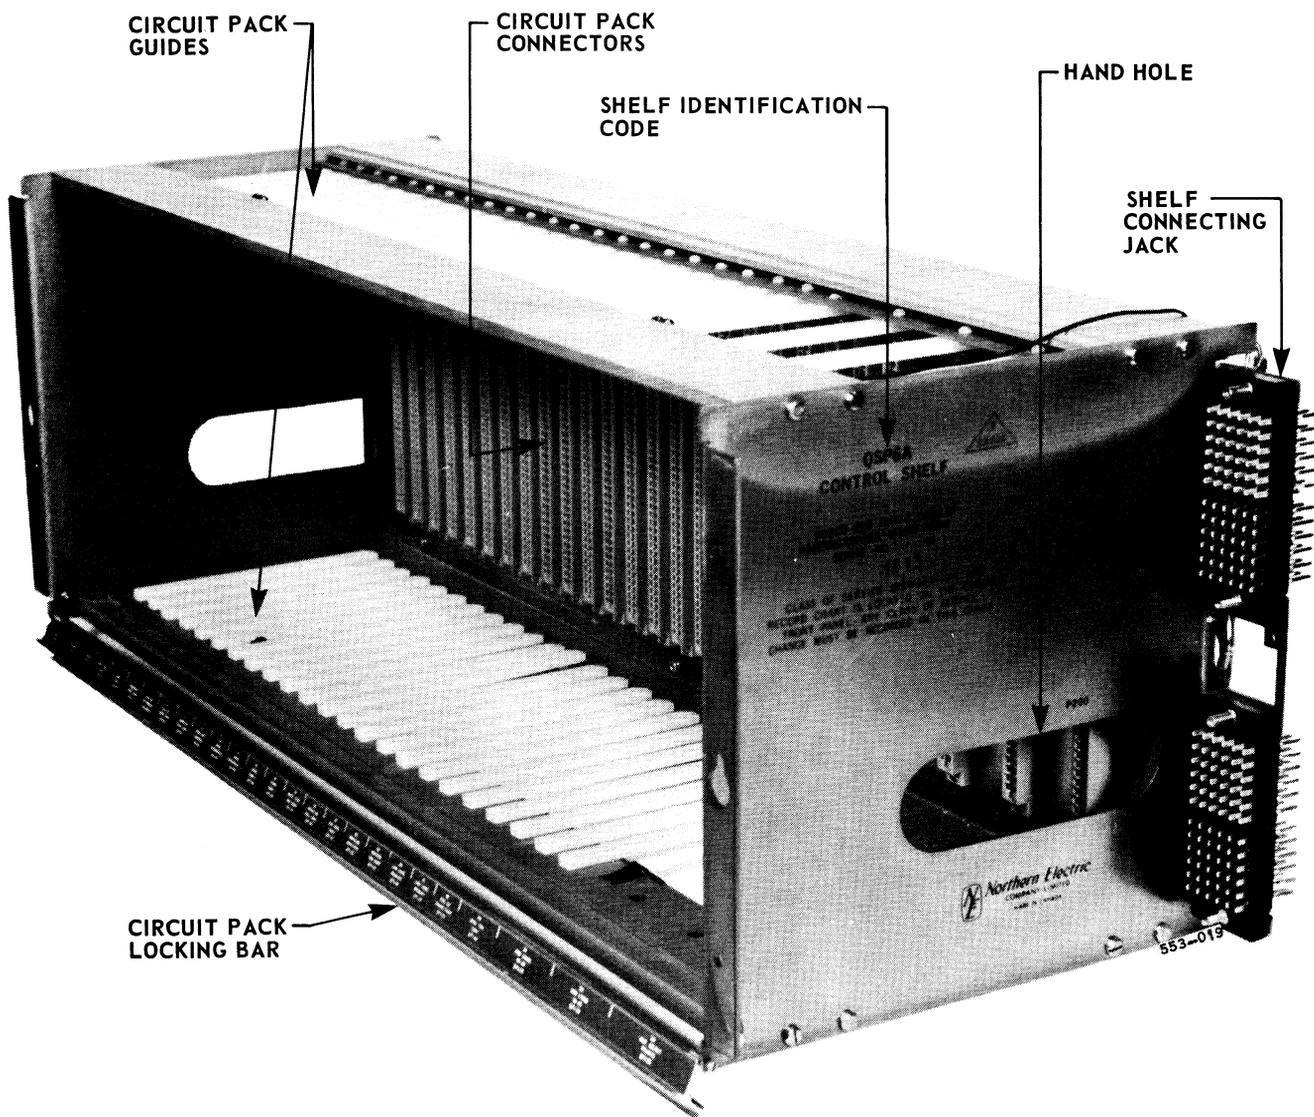

Fig. 5 — Location of Shelf Identification Code
3.16 The shelves are identified by an apparatus code printed on the front-facing end plate as shown in Fig. 5.